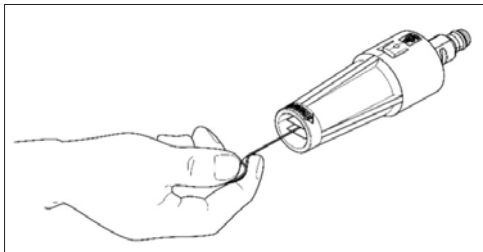

Fig.16
- Clean the nozzle with the needle clean-out tool provided (Fig.16)